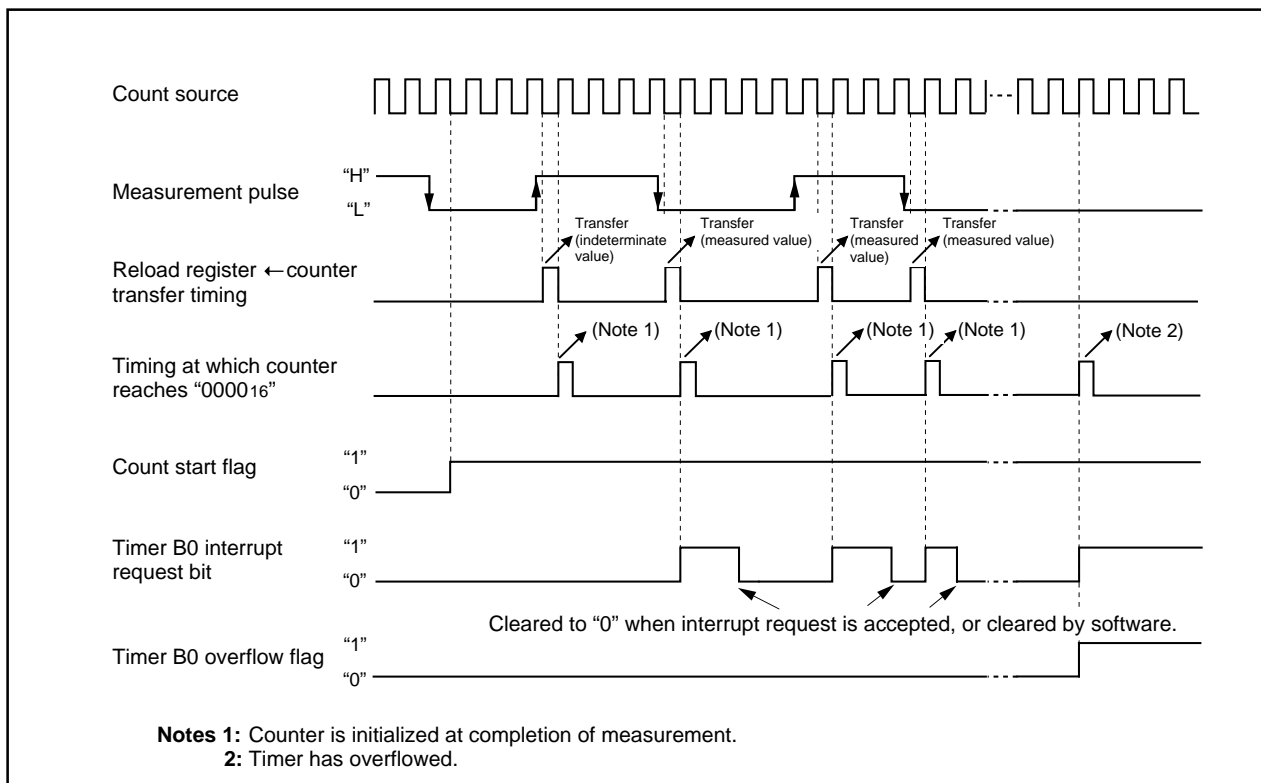

Figure 2.10.25 Operation timing when measuring a pulse width
2.10.24 shows the operation timing when measuring a pulse period. Figure 2.10.25 shows the operation